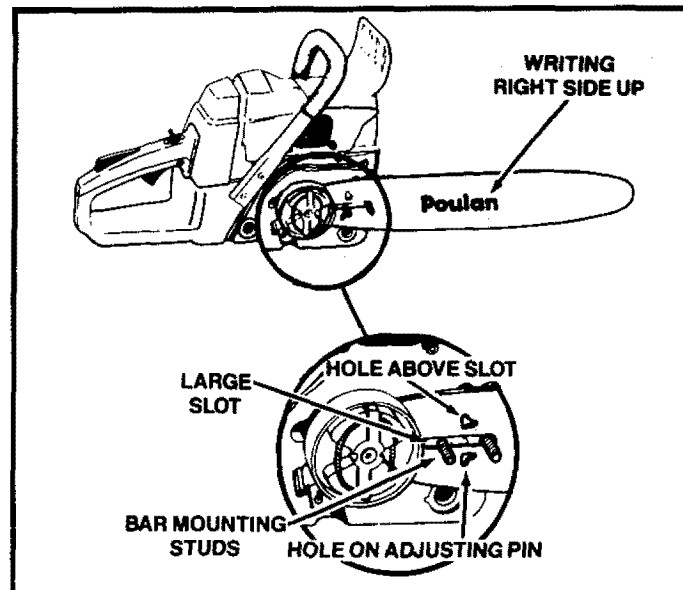

Figure 7
3. Mount the guide bar. Mount the slotted end of the guide bar over the bar studs and the hole under the slot on the adjusting pin. Figure 7.